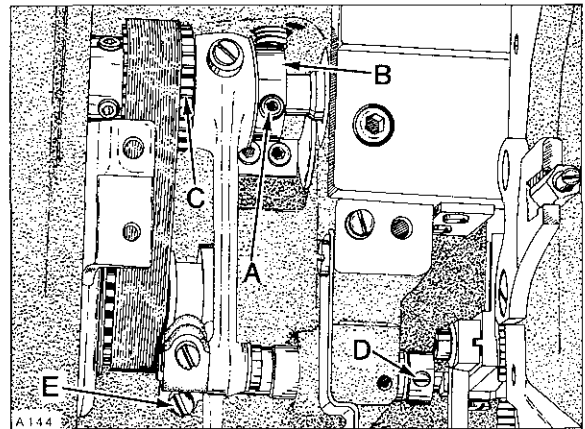

Fig. 14
Adjustment can be made by loosening two screws (A, Fig. 14) and rotate needle guard eccentric (B) slightly as required until this condition exists. Check to ensure .002 inch (.051mm) clearance between needle guard eccentric (B) and looper drive sprocket (C) while tightening screws (A) securely.